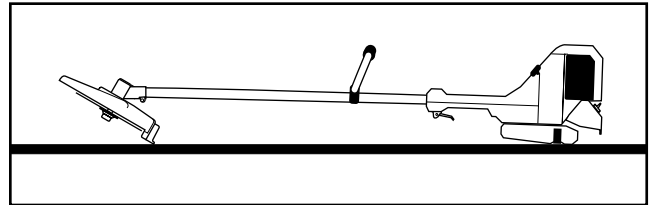

Fig. 53
5. Store the trimmer in a dry, well-ventilated area, and hang with the cutting head up or place the unit flat on the floor (Fig. 53).